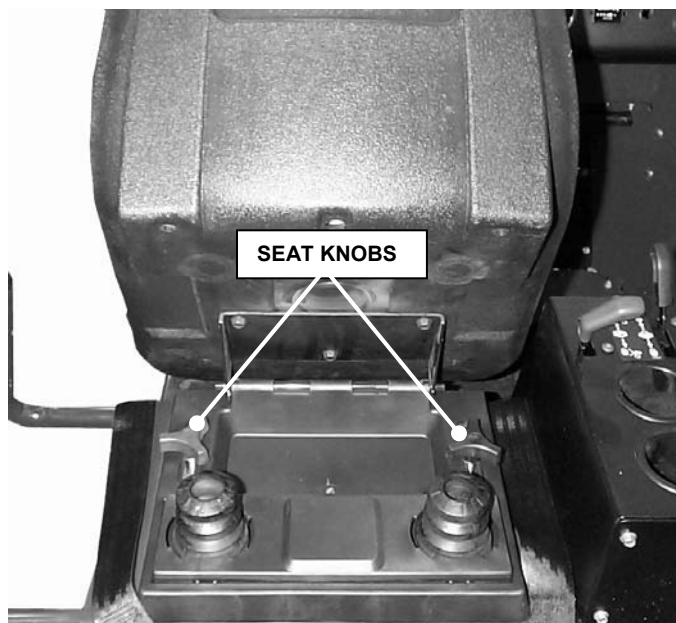

FIGURE 4.3
1. The battery is located under operator's seat. Remove seat knobs and carefully tilt forward to expose battery. See Figure 4.3.